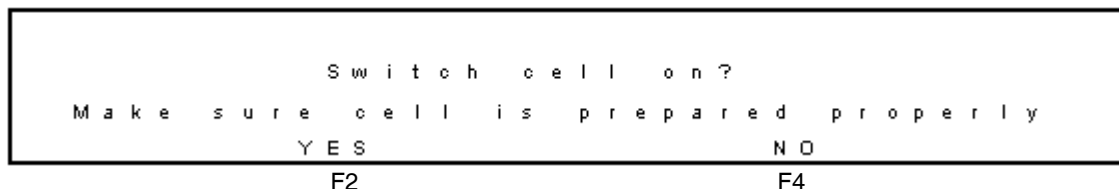

Figure 3-23 Switch Cell On Screen
3. Select **F2 CELL=OFF**. The Switch Cell On screen appears (Figure 3-23).